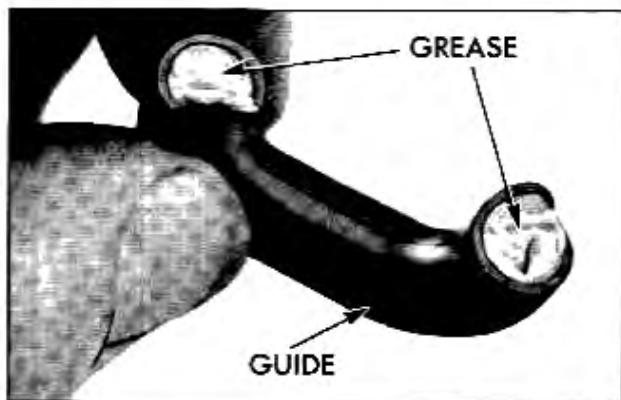
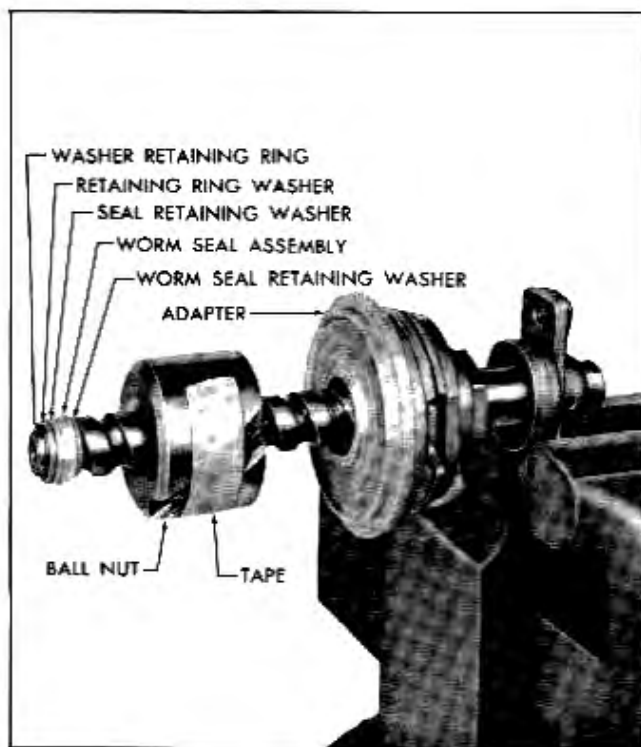

Fig. 9-54 Ball Return Guide
Fig. 9-55 Steering Worm, Seal and Washers Installed
4. Fill one-half of ball return guide with remaining six balls. Place other half of guide over balls and plug ends with grease to prevent balls from falling out when installing guide (Fig. 9-54). Push guide into holes in nut. If guide does not enter easily tap lightly with a soft hammer. Wrap a piece of tape around ball nut and guide (Fig. 9-55).
6. Install worm seal retaining washer (steel), seal (with rubber toward ball nut) retainer washer; (bronze) retaining ring washer (with ring relief toward worm) and retaining ring (Fig. 9-55).